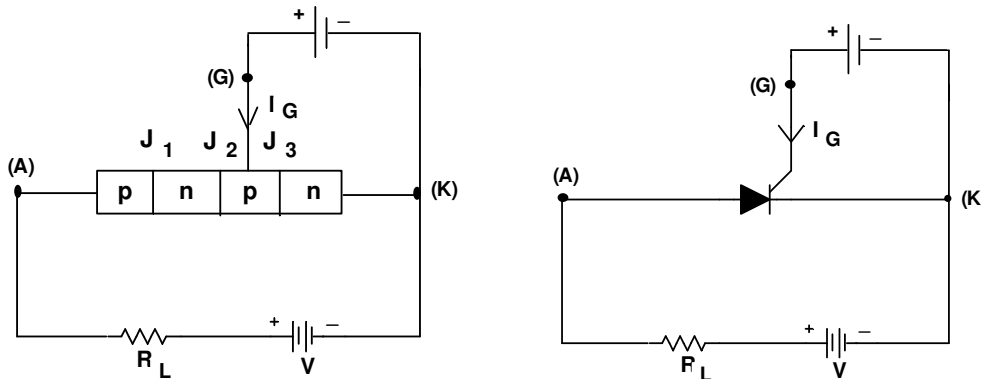

Fig. 64.3
**Action of Gate Voltage:** Consider the SCR circuit shown in fig. 64.3, where anode is positive w.r.t. cathode. Let us suppose that anode voltage  $V$  is less than forward breakdown voltage, so that SCR does not conduct. If now a small positive voltage is applied to the gate, the gate current  $I_g$  starts flowing in the gate circuit. The flow of gate current helps in making current flow across junction  $J_2$  i.e., in breaking it down. This switches the SCR to highly conducting state at the anode voltage which is quite less than forward breakdown voltage. Hence, gate voltage has the ability to trigger the SCR at a low value of anode voltage, but its all control on the SCR current after triggering. Therefore, in order to turn the SCR to OFF position, the anode voltage has to be reduced to zero.